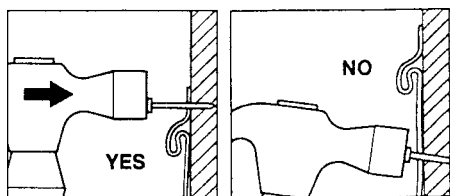

FIG. 8 Face Nailing of Vinyl Siding Prohibited
9.1.3 Do not face nail; it would restrict any thermal movement. (See Fig. 8.)